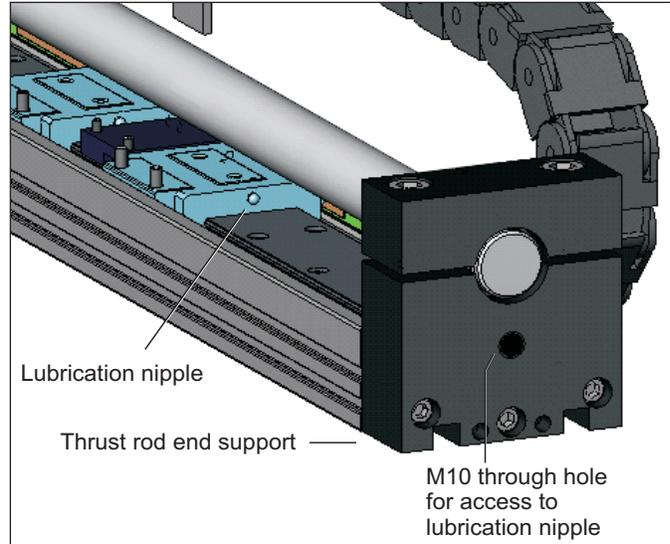

Figure 3.1
- Each thrust rod end support has an M10 through hole which lines up with the bearing carriage lubrication nipple. These can be seen in Figure 3.1. For clarity, the forcer has been removed.